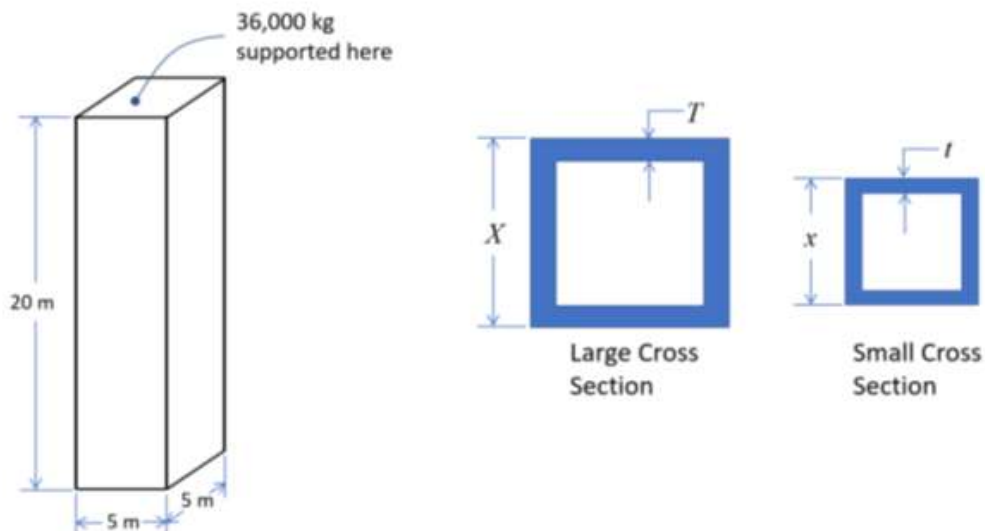

Figure 1
Referring to the design space shown in **Figure 1**, your goal is to design a tower that will support a certain amount of dead load mass at the top of the tower. The tower must be composed solely of beam members that fit in the given space and supports a mass of 36,000 kg that is elevated at 20 m. The tower must also support its own weight and a given wind load. The design space occupies a 5 m x 5 m x 20 m volume. In so doing, you should be driving your structural design to a *mass budget of 3600 kg* without compromising its structural integrity that is defined below. In other words, your structure's mass may not exceed 3600 kg. In addition, your beam member cross sections must be square and hollow and limited to 2 sizes: Large and Small, as indicated in the figure. It is your task to determine the unknown dimensions X , T , x , and t .
- 2) The height of your beam structure must be exactly 20 m tall. Its width and depth must fit in the 5 m by 5m space indicated in Figure 1. In addition, your structure must have at least 30 distinguishable load-bearing members, and it must be fixed to the ground with at least 2 points. All ground support points must be separated by at least 1 m.